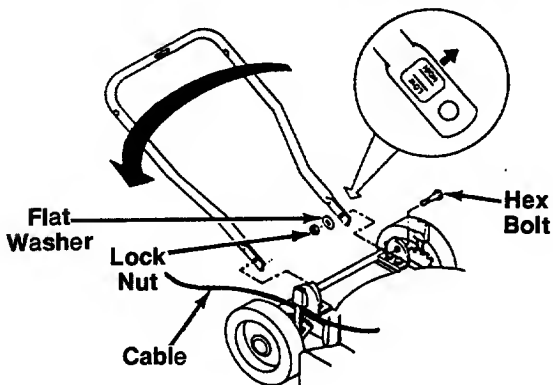

FIGURE 1.
NOTE: Your mower handle can be raised or lowered for your mowing comfort by assembling the lower handle in the desired position. See figure 1.
3. Loosely attach one leg of lower handle to handle bracket with 3/4" long hex bolt, 3/8" flat washer and hex lock nut as shown in figure 1. Do not tighten.